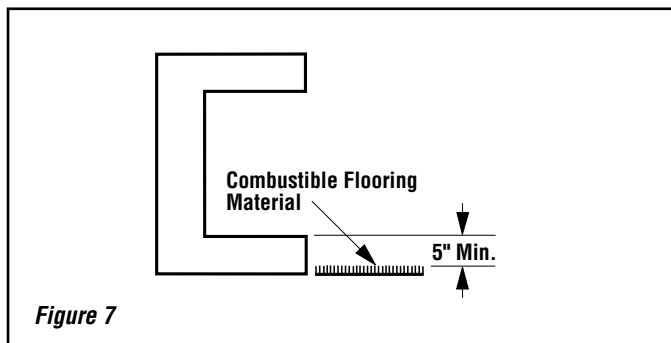

Figure 7
Step 5. Floor clearance: If combustible flooring materials, such as carpeting or asphalt tile, are to be located within 14" of the fireplace or firebox opening, the appliance base must be at least 5" above the combustible flooring material (**Figure 7**).